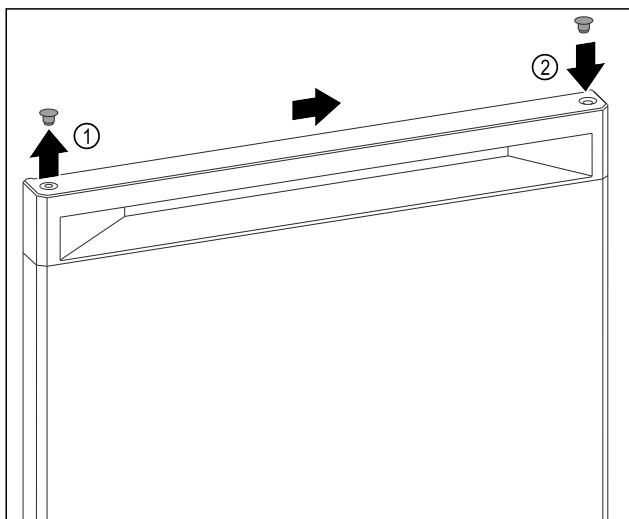

Fig. 7
- Carefully lift the cover plug on the top of the door Fig. 7 (1) with a slotted screwdriver.
- Insert the cover plug on the opposite side. Fig. 7 (2)